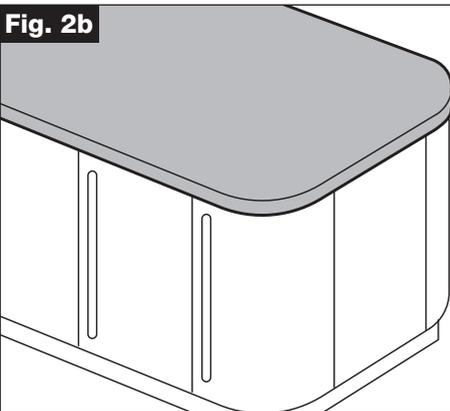

Fig. 2c
E. Door Concave Pin Positions (Fig. 2c)